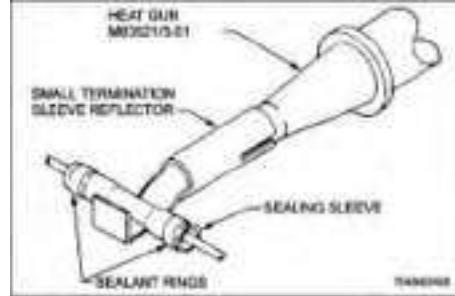

Figure 204
- Wire insulation does not extend into the wire crimp barrel (see Item A of Figure 204).
21. Shrink sealing sleeve using hot air gun with small termination reflector. Shrink middle first and move heat towards one end until sealant melts and begins to flow out of sleeve, then move towards the other end, as shown in Figure 204.